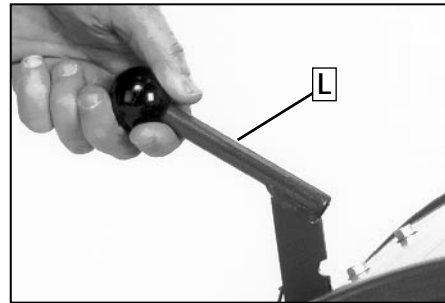

Figure 2-10: Put lever in second notch.
1. With the tiller on level ground, pull the Depth Regulator Lever (L, Figure 2-10) back and then slide it to the second notch from the top. **NOTE:** If the lever does not move, lift the tine hood flap and look for a plastic tie securing the lever in place. Cut and remove the tie.
2. With the unit on level ground, move the Depth Regulator Lever (L, Figure 2-10) up or down until the engine is level.